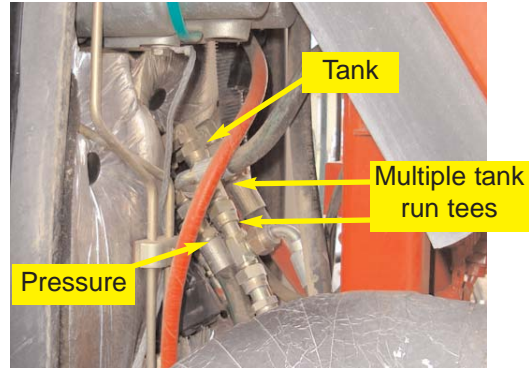

Figure 6a. Pressure and tank location.
a. The automated steering block will make pressure and tank connections at the steering orbital. Some ZTX models will have multiple run tees installed in the tank line of the steering orbital to accommodate other tractor functions. (Figure 6a.)